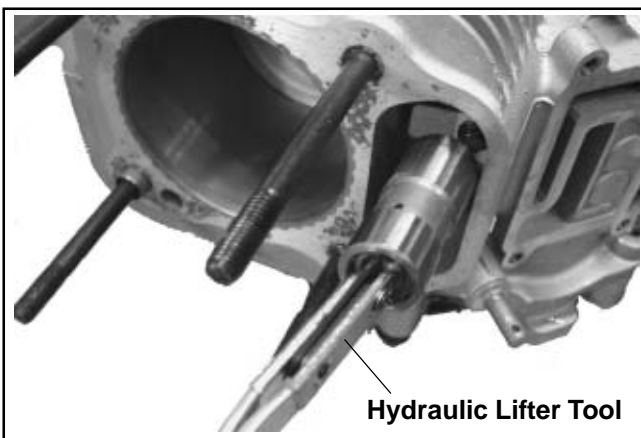

Figure 9-38. Removing Hydraulic Lifters.
4. Remove the lifters from the lifter bores. Use hydraulic lifter tool (SPX Part No. KO1044). Do not use a magnet to remove lifters. Mark the lifters by location, as either intake or exhaust, and cylinder 1 or 2. Hydraulic lifters should always be reinstalled in the same position. See Figure 9-38.